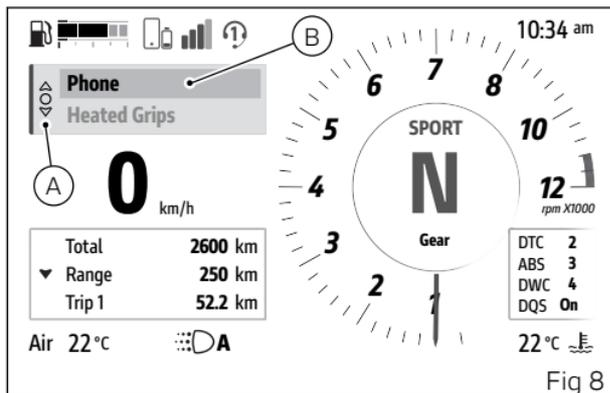

Fig 8
To return to the call in progress window (D), select "Phone" (B, Fig 8) from the Interactive Menu, and press ENTER (3).